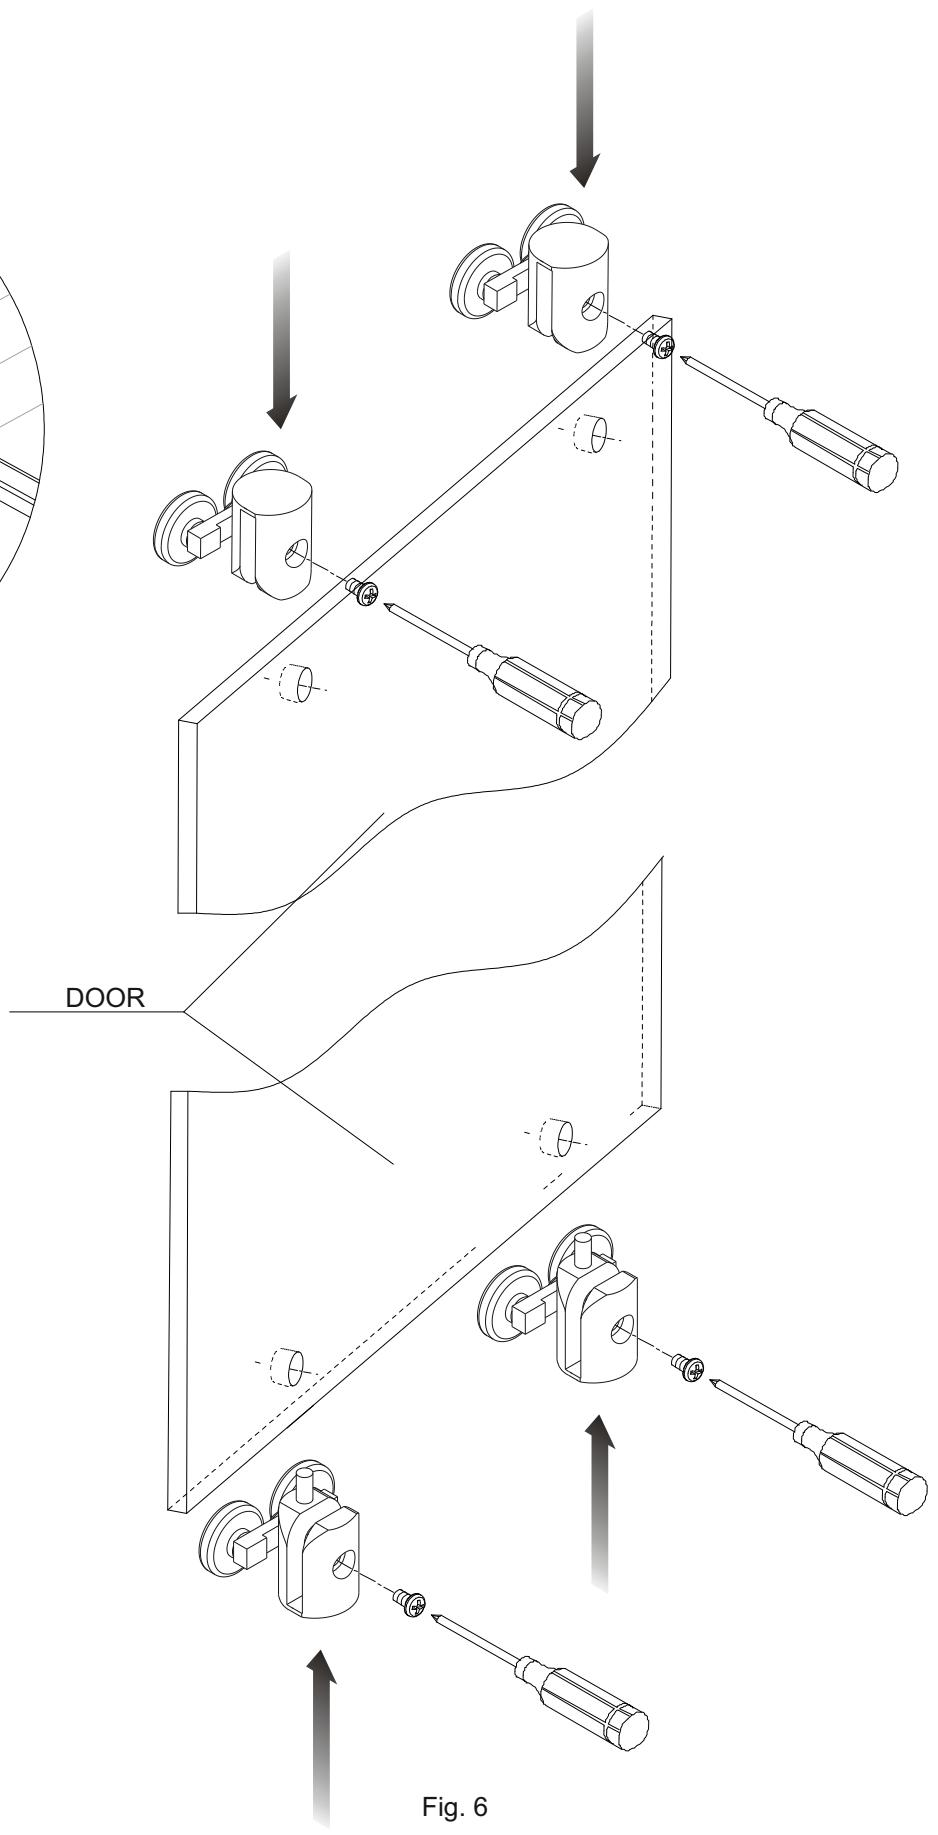

Fig. 6
- 6) Fix the upper wheel(13) and lower wheel(10) on the sliding doors. As Fig. 6
- 6) Fissare i ruote superiori (13) e ruote inferiori (10) delle porte . Vedi Fig. 6.